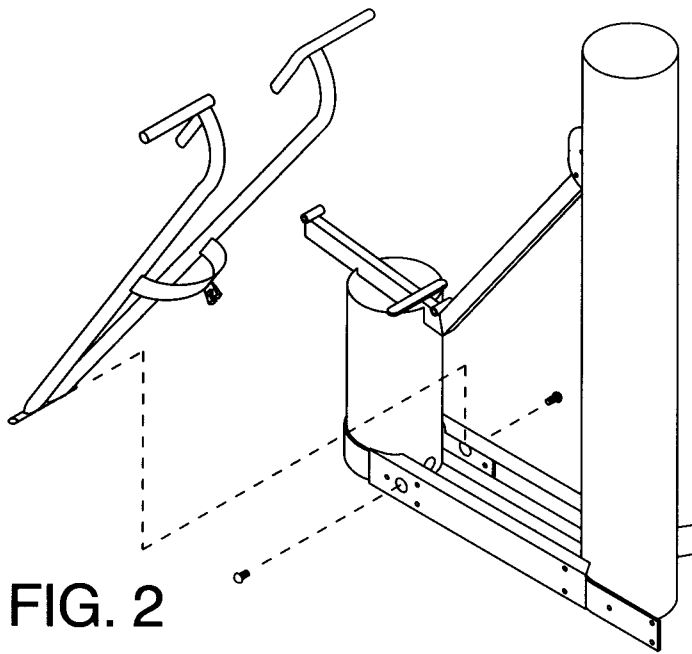

FIG. 2
5. Attach row arm assembly to the base of the seat column. (1/2-13 x 1 button screw, Qty: 2) (Fig. 2)